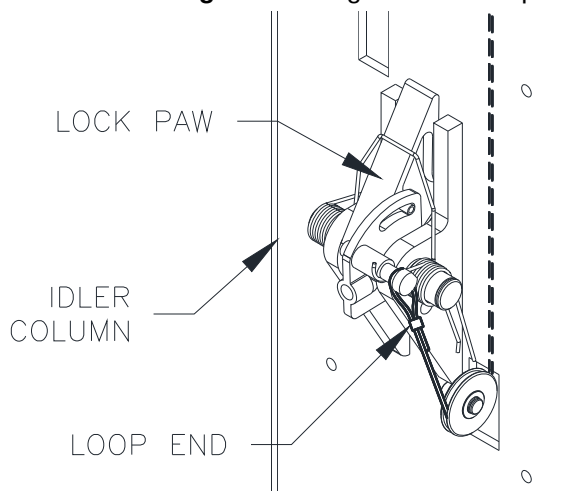
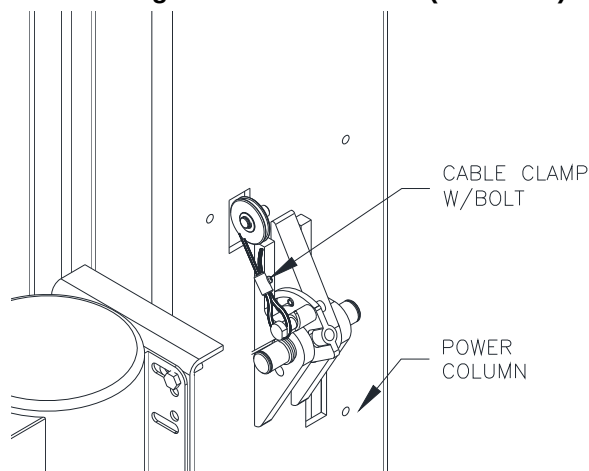

Fig 18a – Lock Release (Idler Side)
Fig 18c – Lock Release (Power Side)
- 34) While the carriages are still sitting in the locks from the previous steps, route the Lock Release Cable assembly (Loop End) through the Idler Column opening, around the pulley and attach to the Lock Release Cam as seen in **Fig 18a**.
- 36) Continue routing the cable down the inside of the Power Column and out through the column opening and around the Upper Pulley as seen in **Fig 18c**. Insert the Lock Release Cable through the Cable Clamp Tube and loop the remaining cable around the pin of the Lock Release Cam and back thru the clamp. Remove all slack in the cable until cam on Idler side is rotated as shown in **Fig. 18a** and tighten the clamp bolt.